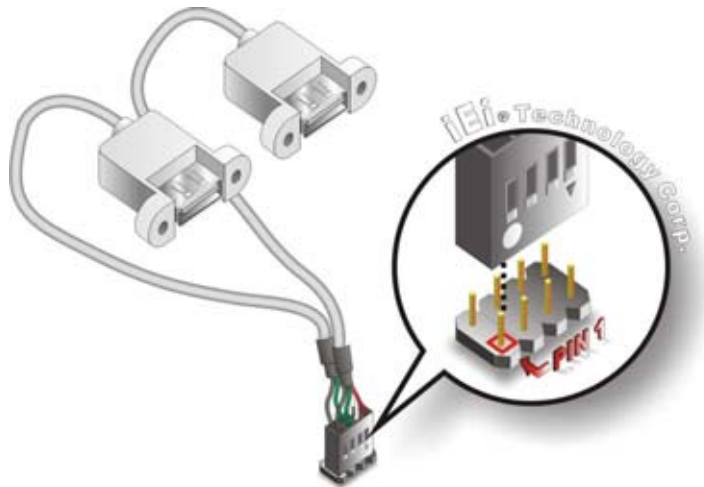

Figure 4-14: Dual USB Cable Connection
Step 7: Insert the cable connectors. Once the cable connectors are properly aligned with the USB connectors on the KINO-9653, connect the cable connectors to the on-board connectors. See **Figure 4-14**.